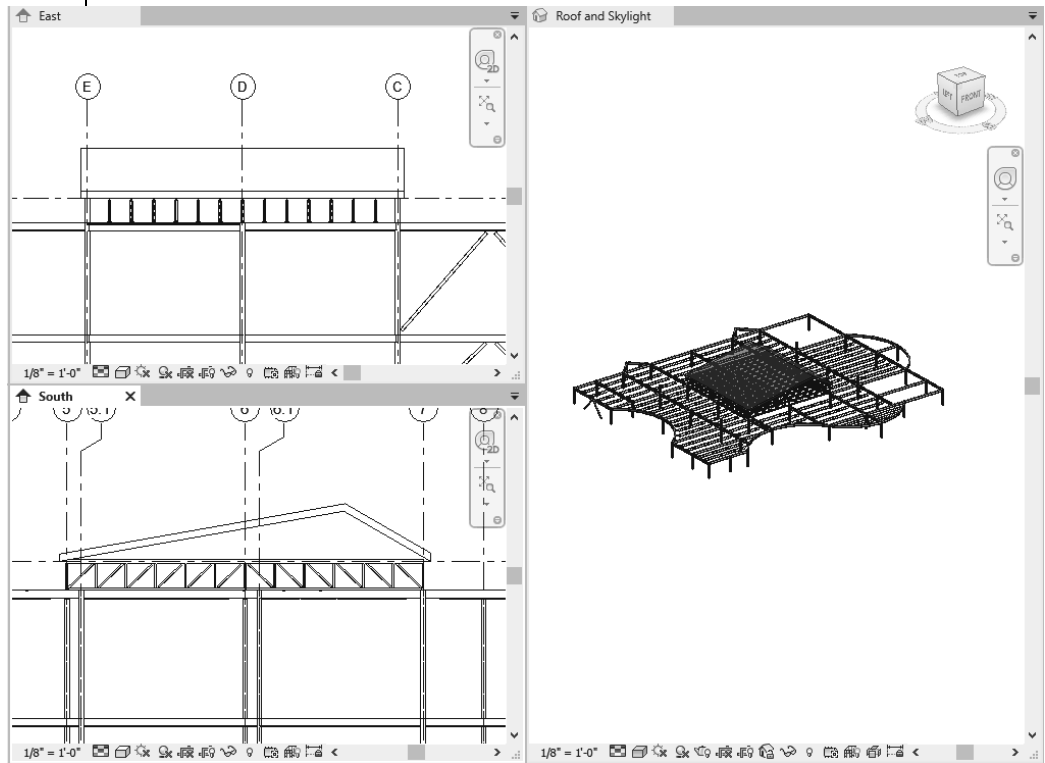

Figure 7–69
- Zoom in on the skylight roof in the two elevation views, similar to that shown in Figure 7–69.